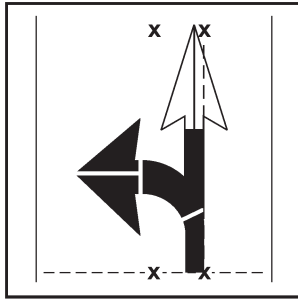

Figure 24
7. Lay out the top two sections of the straight arrow (liner still on) on top of the straight arrow base (see Figure 24).